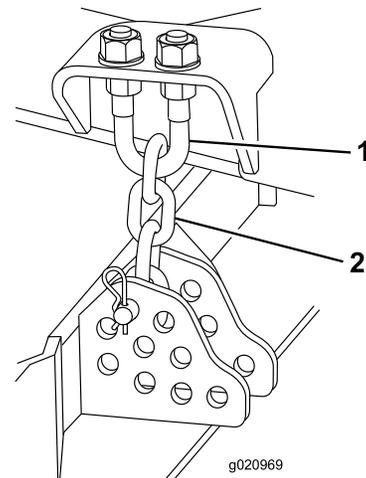

Figure 102
1. Loosen the jam nuts on the top or bottom of the height-of-cut-chain U-bolt (Figure 102).